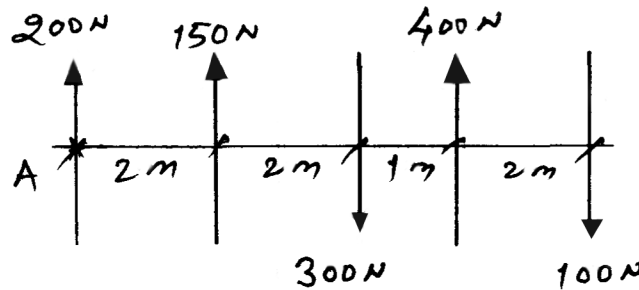

Fig. No. 8.
- c) Calculate the resultant and locate it's position w.r.t. point A for the force system shown in Fig. No. 8.